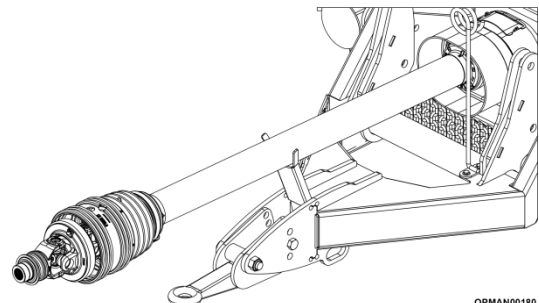

Figure 4.14 – PTO Support Bracket
- 4.5.1.7 If the shaft is not destined to be removed completely, utilise the machines PTO support bracket to rest the PTO shaft on; see Figure 4.14. This will ensure that the shaft doesn't get contaminated with dirt.